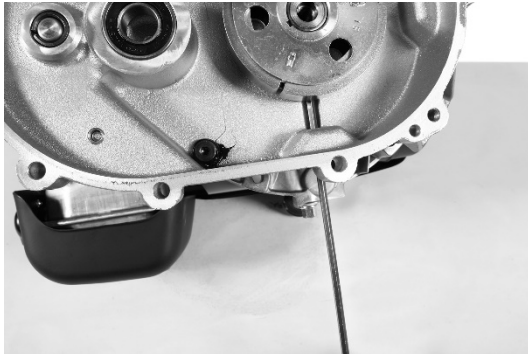

FIGURE 39
9. Install replacement clutch rotor/shoe assembly on engine crankshaft with hub, including two set screws, toward crankcase. Tighten with 1/8 inch (13 mm) Allen wrench. FIGURE 39
IMPORTANT: End of engine crankshaft is set .030 (0.76 mm) below top edge of clutch rotor/shoe assembly hub. FIGURE 39